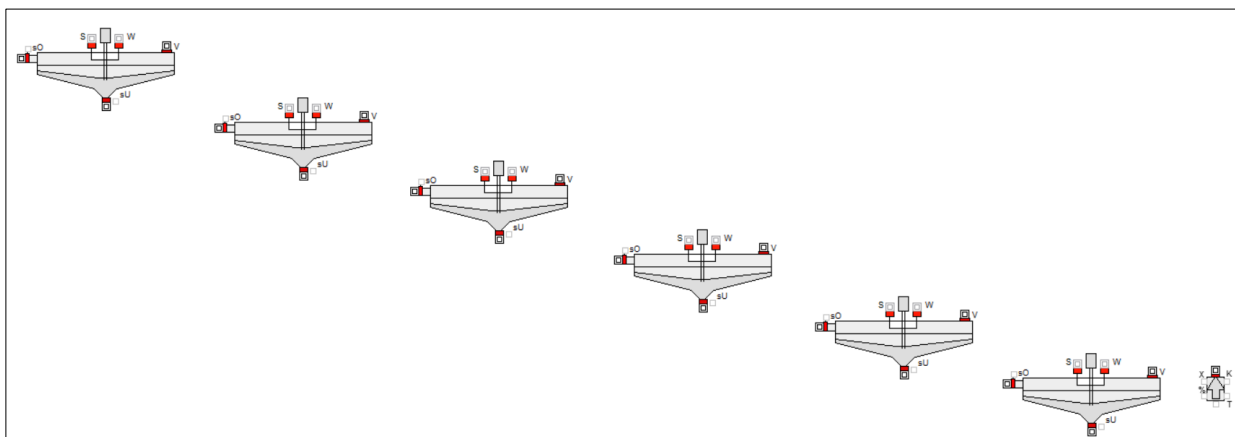

Figure 74: Placement of Thickener Objects
Now copy (CTRL+C) the **Thickener** object and Paste (CTRL+V) it 5 times to create five (5) more thickener objects. Arrange them as shown in Figure 74 to the right of the worksheet.